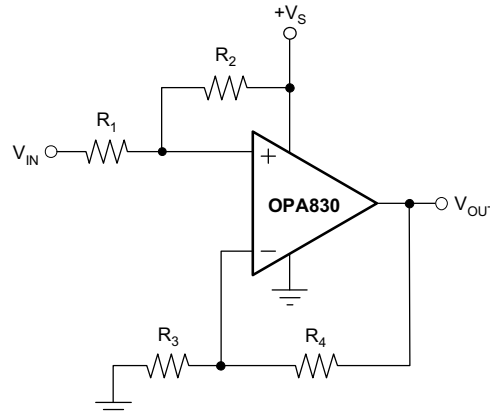

Figure 53. DC Level-Shifting
Figure 53 shows a DC-coupled non-inverting amplifier that level-shifts the input up to accommodate the desired output voltage range. Given the desired signal gain (G), and the amount V_{OUT} needs to be shifted up (ΔV_{OUT}) when V_{IN} is at the center of its range, the following equations give the resistor values that produce the desired performance. Assume that R_4 is between 200Ω and 1.5kΩ.